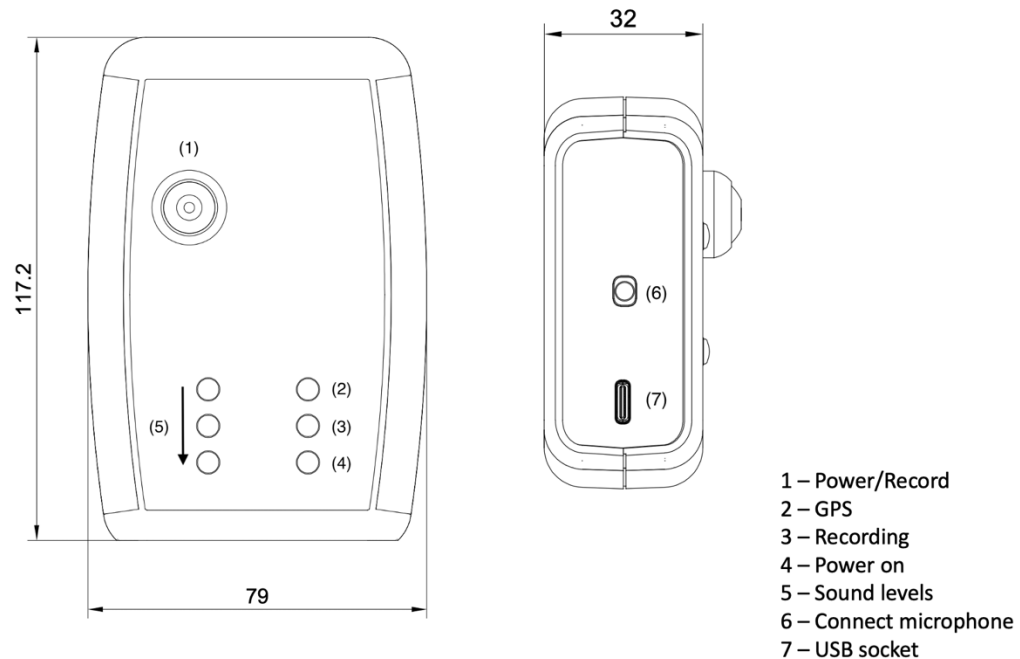

Figure 1: Soil Acoustics Meter (SAM) technical drawing
2. Plug in the probe to the 3.5 mm round jack socket (6 on Figure 1).